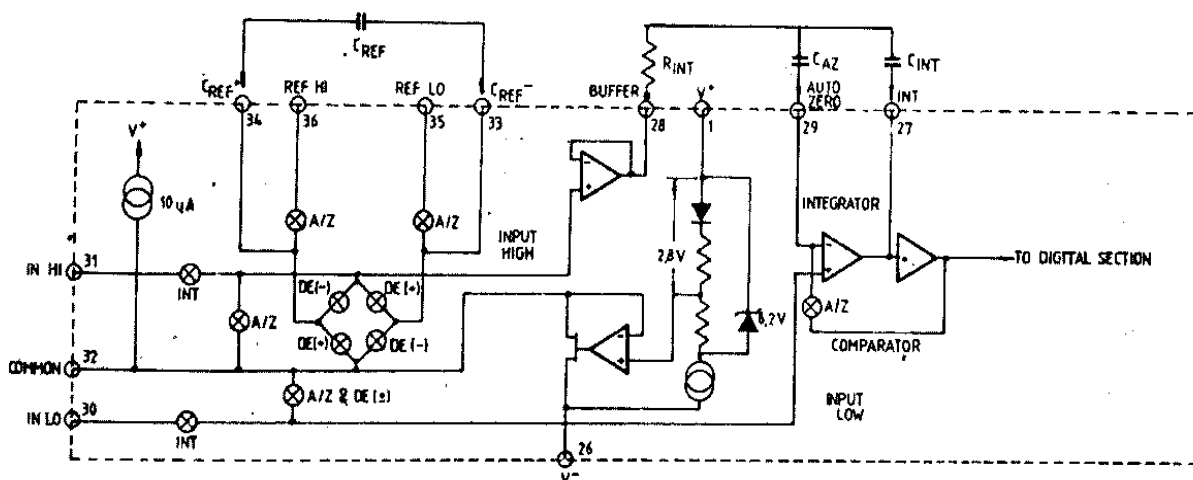

Figure 3: Analog Section of 7106/7107
Figure 3 shows the Block Diagram of the Analog Section for the MMC 7106 and 7107. Each measurement cycle is divided into three phases. They are (1) auto-zero (A—Z), (2) signal integrate (INT) and (3) deintegrate (DE).
Fig.3 7107 with Zener diode reference. Since low T.C. Zeners have breakdown voltage 5.8 V, diode must be placed across the total supply (10V). IN LO may be tied to either COMMON or GND